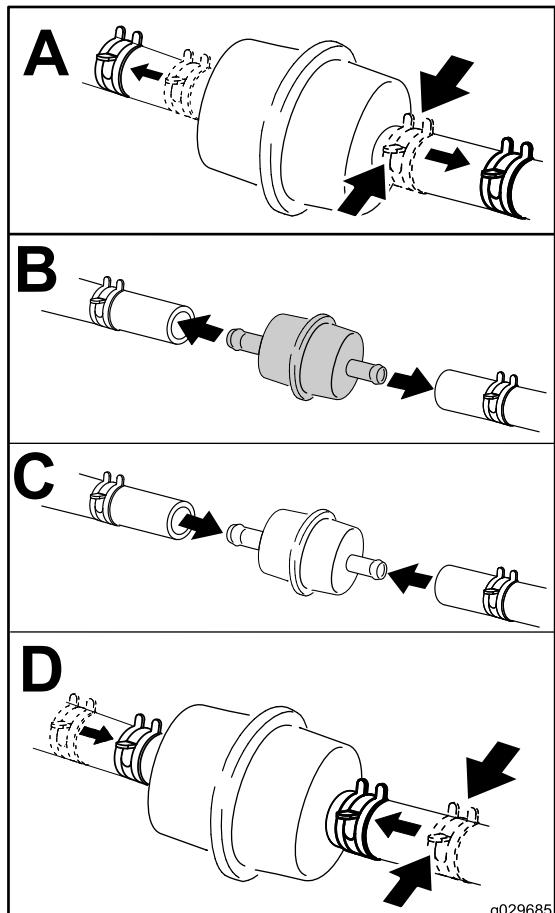

Figure 38
3. Replace the in-line fuel filter (Figure 38).